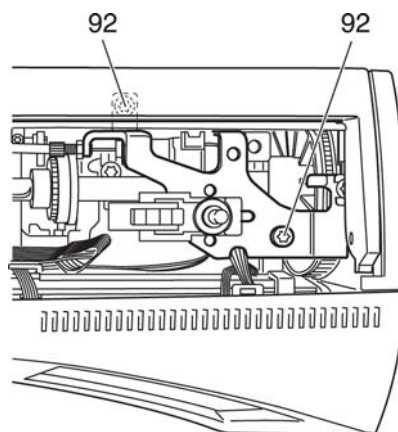

Fig. 28
- Remove the two screws 92 (fig. 28).
- Insert the Bowden cable in the bearing and lightly turn screw 93 (fig. 28)